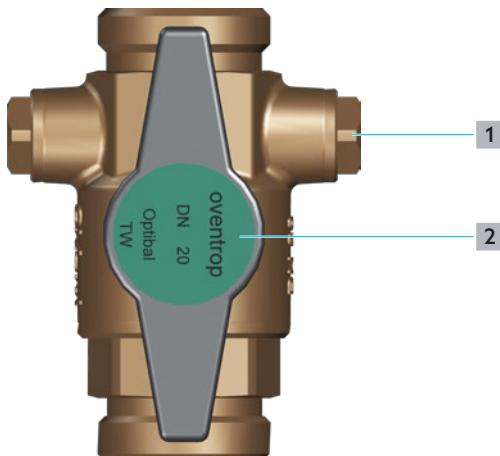

Fig. 6: Ball valve
- 1 Close the ball valve by turning the rotary handle (position 2 in Fig. 6 on page 9) by 90°.
- 2 Open the lateral connection of the ball valve (position 1 in Fig. 6 on page 9).
- 7 If the check valve is intact, close the lateral connection of the ball valve (position 1 in Fig. 6 on page 9).
- 8 Open the ball valve slowly by turning the rotary handle (position 2 in Fig. 6 on page 9) by 90°.